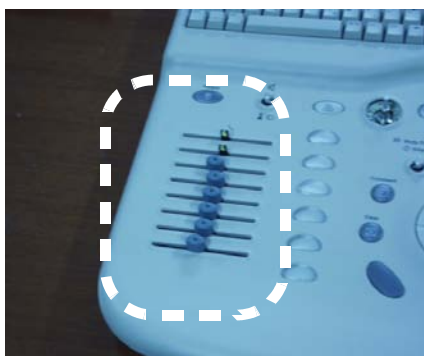

Figure 8-32 Removing TGC Knobs
- 1.) Remove eight (8) TGC knobs from the upper side of the Keyboard. Refer to Figure 8-32.